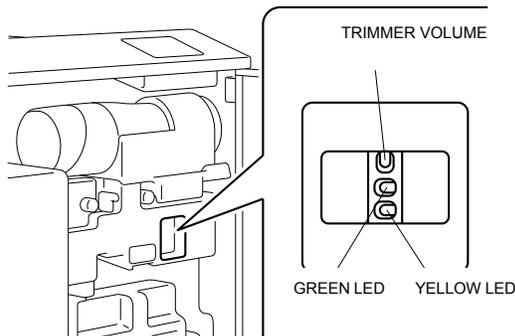

Figure 5-26
5. **Adjust the developer unit potentiometer (Figure 5-26) until both the Green and Yellow LED indicators are completely OFF.**
6. The ATDC adjustment mode will continue to run for approx. (3) three minutes and turn off.